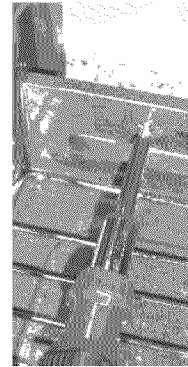

Fig. 1
2. Pull the drawer away from the oven. Using a phillips-head screwdriver remove the two drawer screws from the insides of the front oven drawer compartment -*Fig. 1-*.